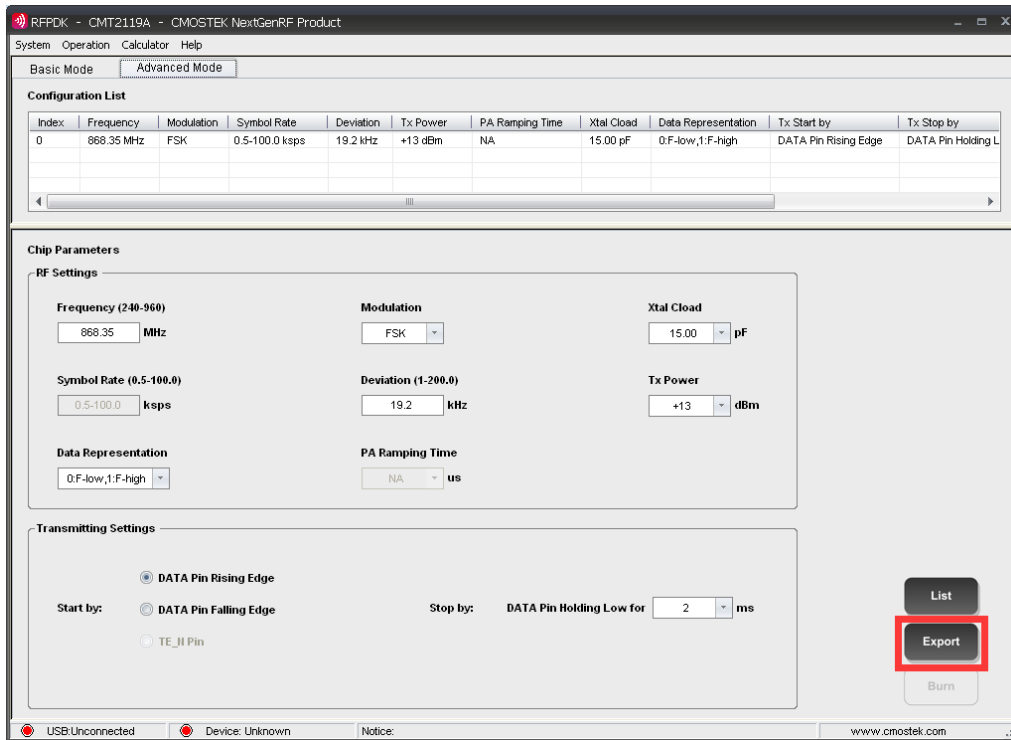

Figure 26. Export Button on the RFPDK
- As a specific feature could be related to several registers, in order to change the feature correctly, the user is recommended to find out the corresponding registers by Export function on the RFPDK, as shown in Figure 26 . For more RFPDK details, refer to "AN103 CMT211xA-221xA One-Way RF Link Development Kits Users Guide". An example of changing the frequency from 433.92 MHz to 868 MHz is listed below.